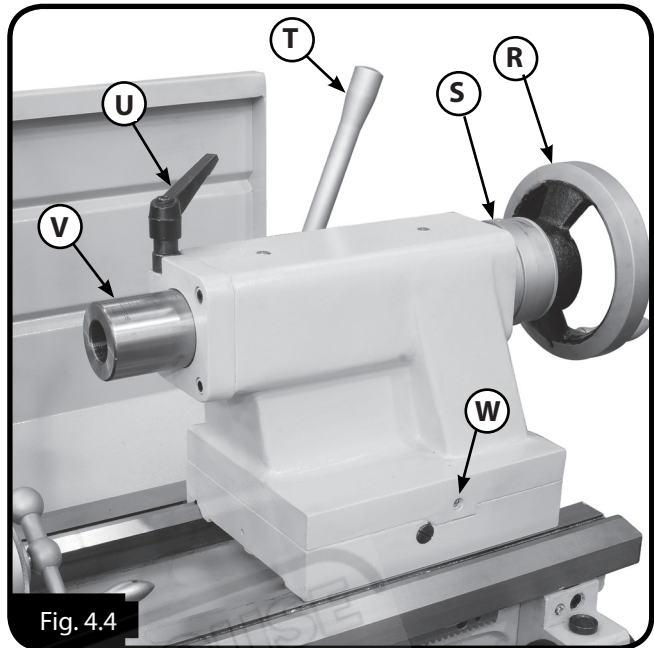
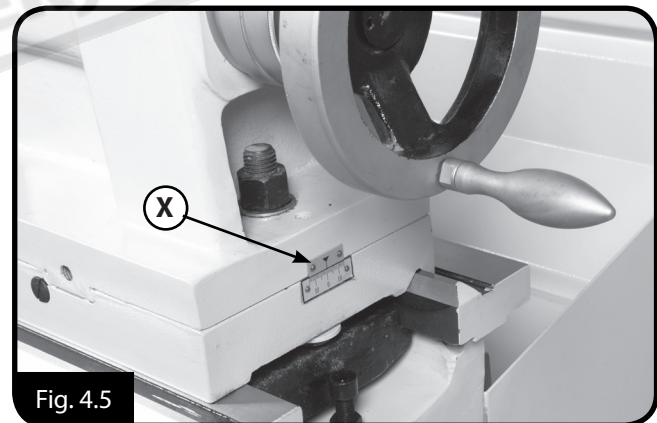

Fig. 4.4
Fig. 4.5
TAILSTOCK (Fig.4.4)
X. Offset Scale: Indicates the relative distance of tailstock offset from the spindle centerline. (Fig. 4.5)
The tailstock is typically used to support long workpieces by means of a live or dead center. It can also be used to hold a drill or chuck to drill holes in the center of the end of a part. Custom arbors and tapers can also be cut on your lathe by using the offset tailstock adjustment screws (W in Fig. 4.4)
Note: The marks on the indicator on the end of the tailstock (Fig. 4.5) are only a guide. For a precise offset, use a dial indicator to check while adjusting the screws that are located on both sides of the tailstock. (W in Fig. 4.4)
7. Use a micrometer to measure both ends of the workpiece. If the test stock is larger at the tailstock end, then adjust the tailstock toward the front of the lathe 1/2 the distance of the difference. (See Fig. 4.4 for adjustment screws)